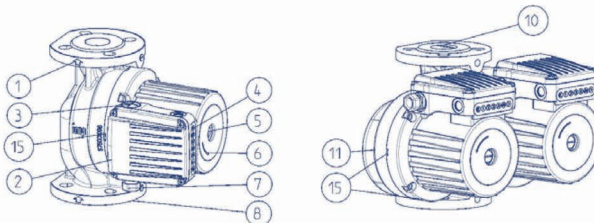
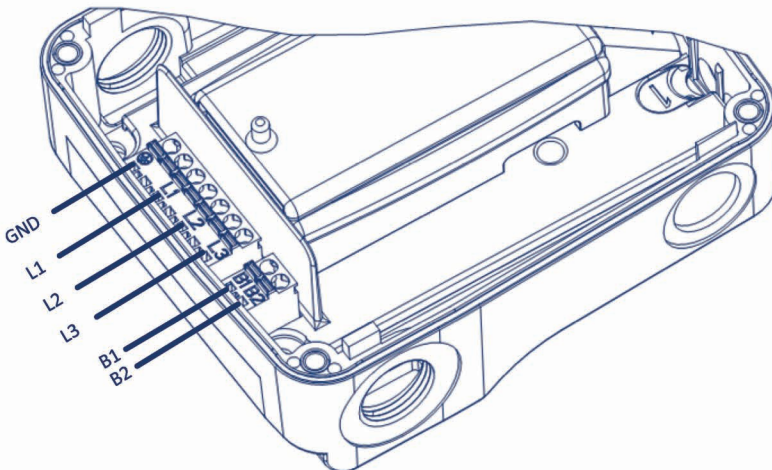
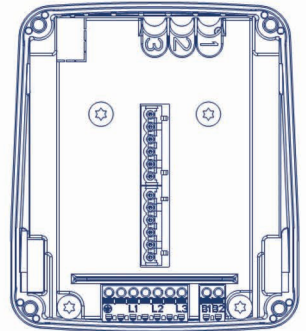

Figure 1 GHN basic II and GHND basic II
Figure 3: Electrical scheme
Fig 5: Electronics without speed selector
Desired head orientation can be achieved by rotating the pump head (allowed positions shown in figure 1). Pump head is mounted to hydraulic casting with four screws. By unscrewing those, the pump head can then be turned.
The connecting wire has to be connected over a cable entry M20 (Fig. 1 - POS. 7).
Electrical connections of the pump must be carried out in accordance with the wiring diagram (Fig. 3), attached on the bottom of motor cover. Before doing that unwind the upper cover (Fig. 1 - POS. 2). By the standard IEC 60446 it is recommended to use the following electrical wiring order:
Each pump is able to cover the areas of three hydraulic characteristics. To achieve this, it has an inbuilt electric motor with three different speeds. For achieving the selected characteristics or speeds ① ② ③, the pump has a speed selector (Fig. 5). To change the speed, the upper cover has to be removed (Fig. 1 - POS. 2), then replace the speed selector to the desired speed.
Switch off the pump, close the valve on both pressure and suction sides of the pump, unscrew the vent for deaeration, place the screwdriver (Fig. 1 - POS. 5) in the notch on the shaft and twist as long as friction forces allow. Then screw the vent for deaeration.